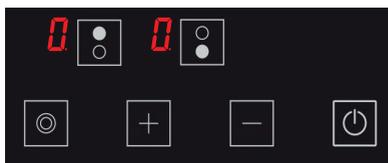

Figure 19
3. The **H** icon is displayed on all displays. (see Fig. 19) The **H** and **H** icons are displayed alternatively if any hob is hot.